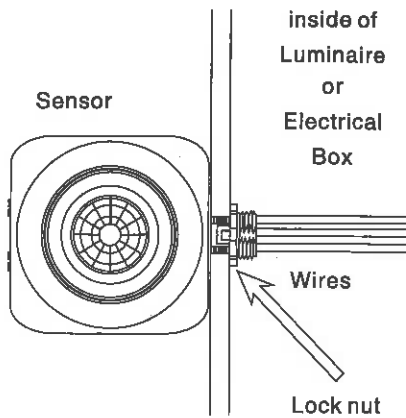

Fig 3A
- 2.Slide the lock-nut over the wires and thread clockwise on to the threaded nipple to secure the sensor firmly in place making sure the lens is orientated towards the area to be monitored(field-of-view).(refer to Fig3A)